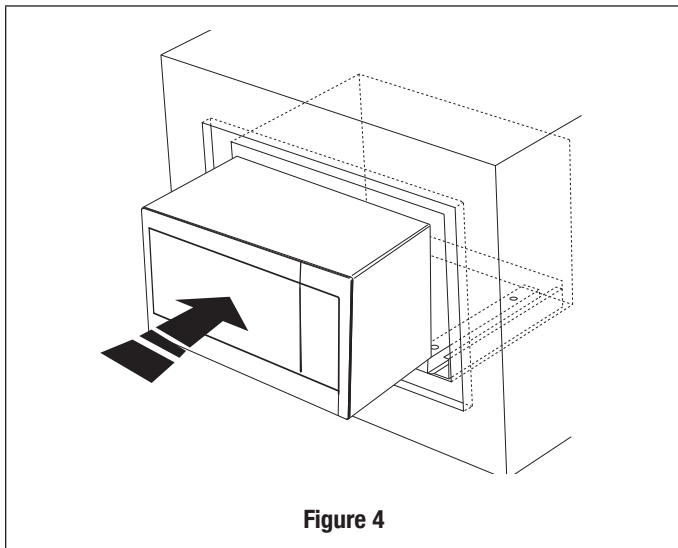
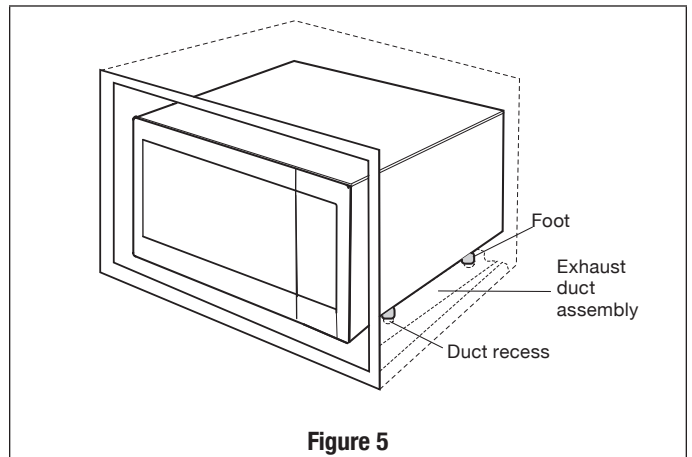

Figure 4
Figure 5
2. Carefully guide the assembled oven into the prepared opening. Slide the oven onto the Exhaust Duct Assembly. See Figure 4. Avoid pinching the cord between the oven and the wall. Adjust the position of the oven so that the feet of the oven are fitted into the recesses of the Exhaust Duct Assembly and the door opens properly. See Figure 5.